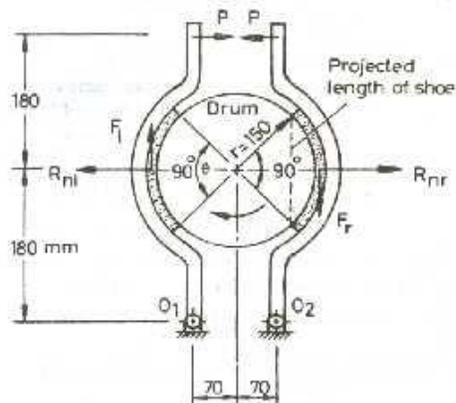

Figure: B3
5. The double shoe brake shown in figure: B3 must provide a braking torque of 280.5Nm @ 720rpm. Assuming coefficient of friction 0.3 for brake lining and $pV=1100$ KPa m/s, determine